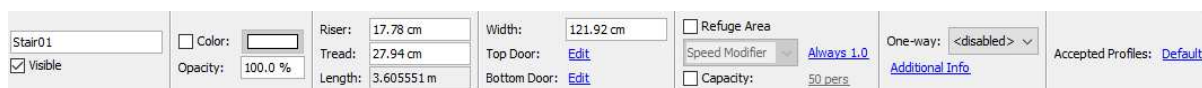

Figure 63. Stair property panel
Stairs have a number of properties that control their geometry and behavior of occupants that travel on them. When a stair is selected, these properties can be seen in the stair's property panel as shown in Figure 63.
2. Select the stair (or several) so its properties are visible in the property panel as shown in Figure 63.